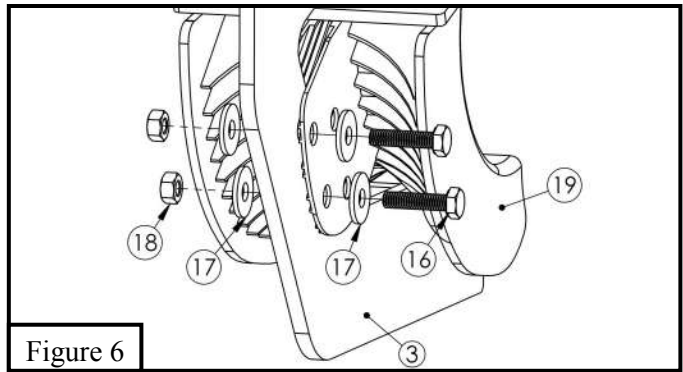

Figure 6
6. Locate Plastic Bracket Cover (Item 19) and install onto brackets using the provided M6 hardware (Items 16-18). (**Figure 6**)